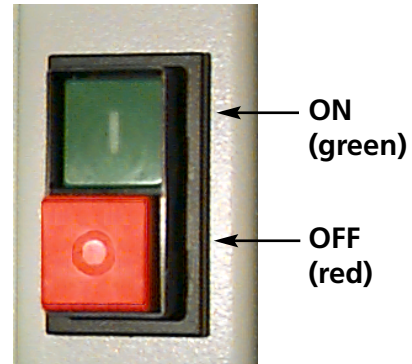

Figure 1-16
1. Figure 1-16 shows the power in the ON position. Turn the power OFF before connecting ANY cables.